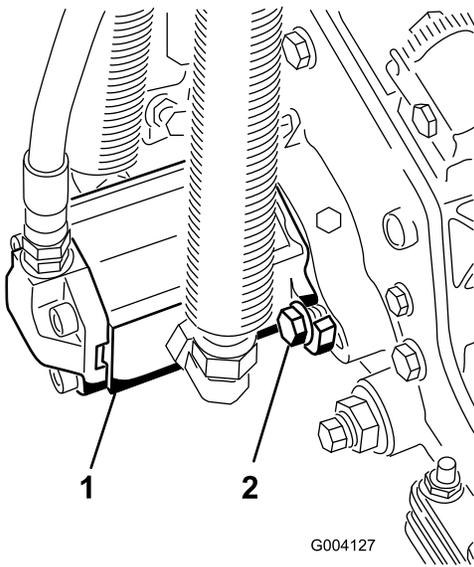

**Figure 12**
12. Secure the lift-arm chain to the chain bracket with the snapper pin (Figure 12). Use the number of chain links described in the *Operator's Manual* of the cutting unit.